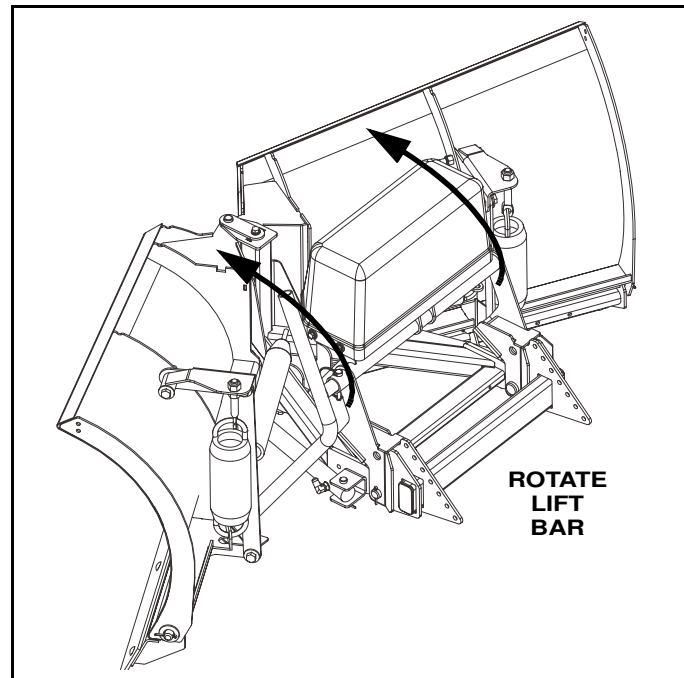

Figure 1-17
7. Rotate lift bar forward and lower jackstand by pressing up function on controller. (See Figure 1-17)